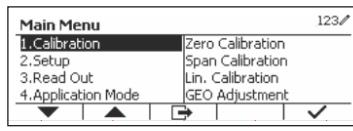

Figure 14
1. Long press the button to enter Main Menu. (See Figure 14)